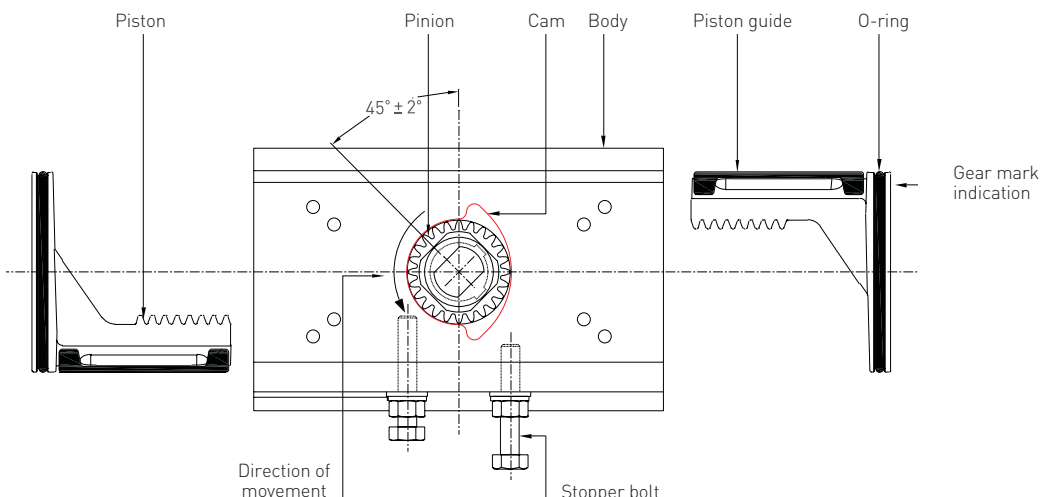
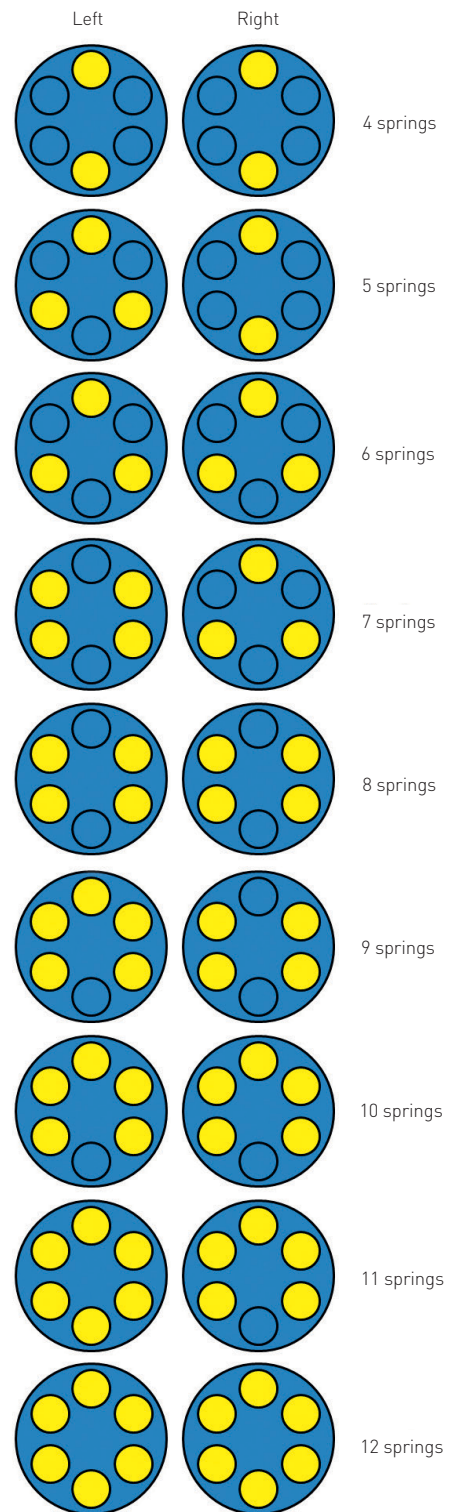

FIGURE 5 (top view)
FIGURE 6 - Spring allocation
- a. Turn the pinion (2) clockwise to the close position.
- c. Locate the correct number of spring packs (6) in the cavities on the piston head. For durability make sure to divide the number of springs evenly on both sides, with a maximum difference of 1 spring, and use the configuration as indicated in figure 6 based on the number of springs.
3. Fit end cap gaskets (20) to the end caps (4) using a light smear of grease.
4. Place end cap on top of the spring packs and make sure that the springs are located in the spring pockets (cavities). Fit end cap to body evenly using end cap screws (22) and washer (15). Tighten the end cap screws with the recommended torque (table 2). Make sure that the springs remain in position during assembly of the end cap.
5. Fit position indicator (25) to top of the actuator.
2. Orientate the output shaft at 45° as in figure 5.
3. Insert pistons completely with backing pads (9) with piston legs on right hand side of the bore when viewed from the O-ring end of the piston (figure 5), until racks engages with the pinion and then push gently inward. The actuator is now in the fully open position, and the shaft indication should be at 95 degrees.
5. Insert the left (open) travel stop bolt (21) together with the O-ring (19), washers (14) and lock nut (23) until the bolt hits the travel stop cam. Tighten the lock nut.
7. Insert the right (close) travel stop bolt (21) together with the O-ring (19), washer (14) and lock nut (23) until the bolt hits the travel stop cam. Tighten the lock nut. The position of the travel stop bolts need to be verified after valve assembly and adjusted if required.
- c. Locate the correct number of springs in the cavities on the piston head. Use the configuration as indicated in figure 6 based on the number of springs. For durability make sure to divide the number of springs evenly on both sides, with a maximum difference of 1 spring.
9. Fit end gap gaskets (20) to the end caps (4) using a light smear of grease.
10. Place end cap on top of the spring packs, and fit end cap to body evenly using end cap screws (22) and washer (15). Tighten the end cap screws with the recommended torque table. Make sure that the springs remain in position during assembly of the end cap.
11. Fit position indicator (25) to top of the actuator.
The number of springs used can vary between 4 and 12 pieces. For durability make sure to divide the number of springs evenly on both sides, with a maximum difference of 1 spring, and use the configuration as indicated in figure 6 based on the number of springs.